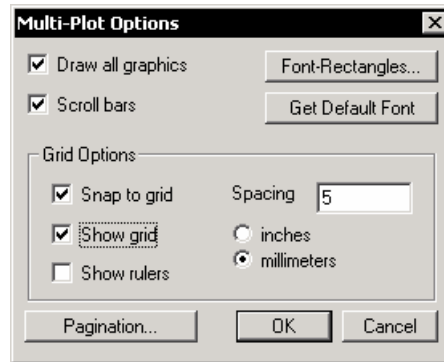

Figure 9.1: Multi-Plot Options Dialog Box.
**NOTE:** If the graphics on your screen are taking too long to redraw during moving and sizing operations you can temporarily disable display. Either turn off the *Draw to Screen* check in the sub-view options (see figure above), or turn off the *Draw All Graphics* check in the Multi-Plot options: (Figure 9.1).